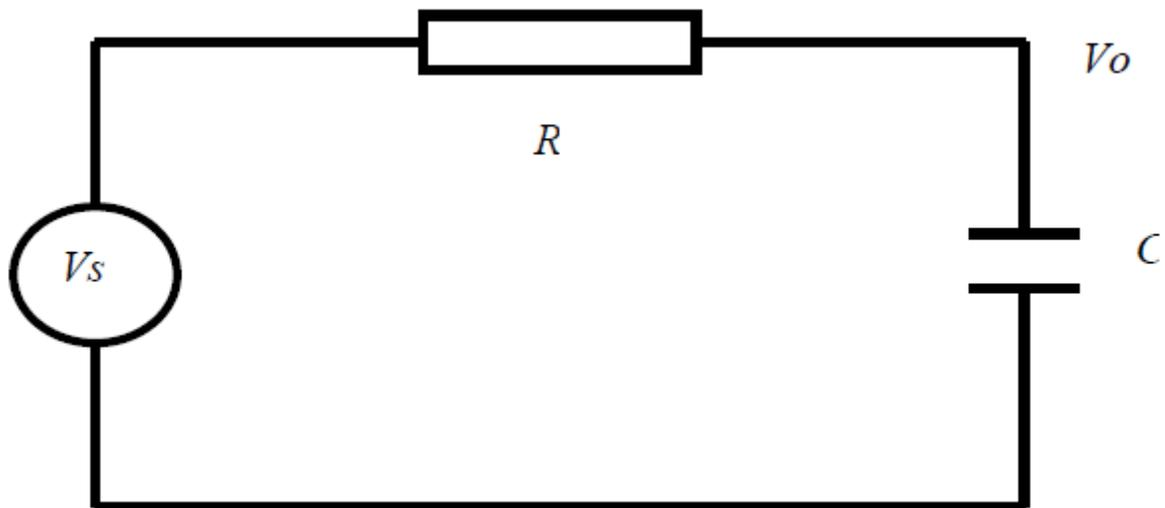

Figure 6: RC circuit.
- 1) Implement the following circuit (Figure 6) to measure V_C and V_S and then calculate I_C . Use only 1 resistor and 1 capacitor. Work with frequencies in the interval 1 kHz to 10 kHz. Avoid using electrolytic capacitors in this experiment.